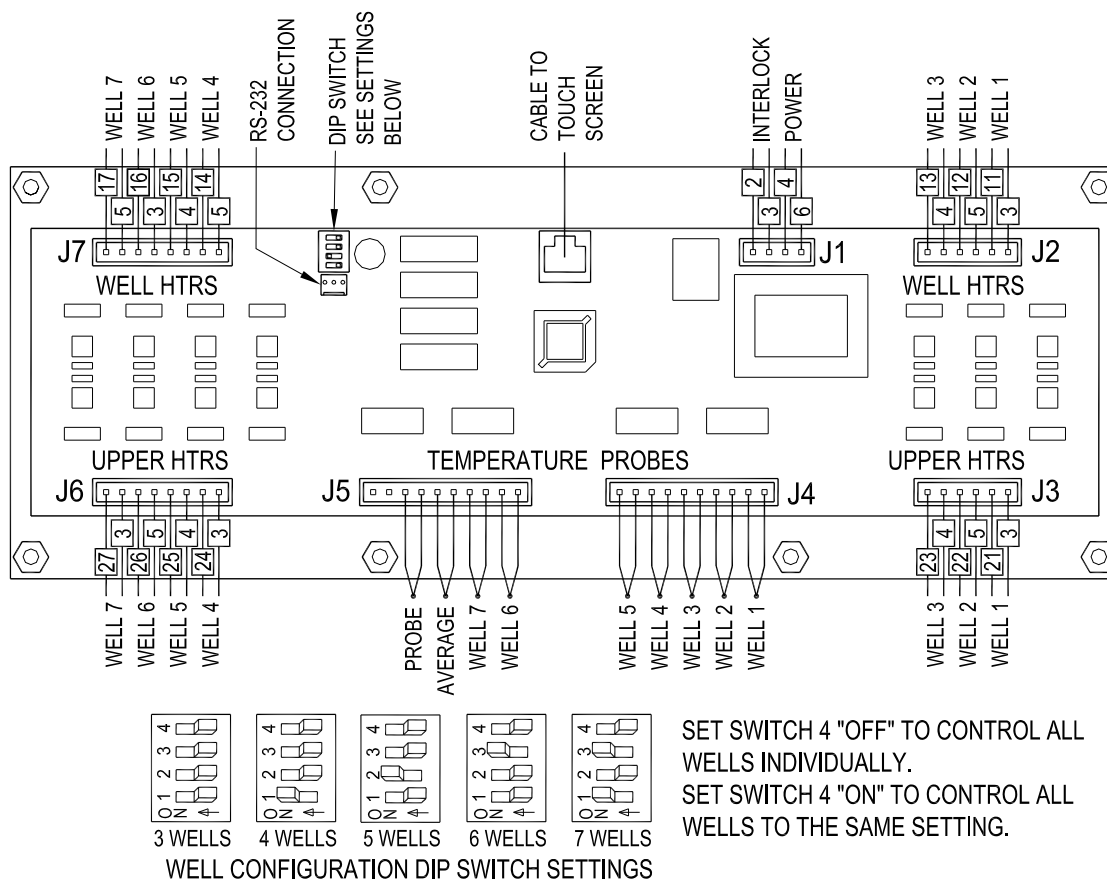
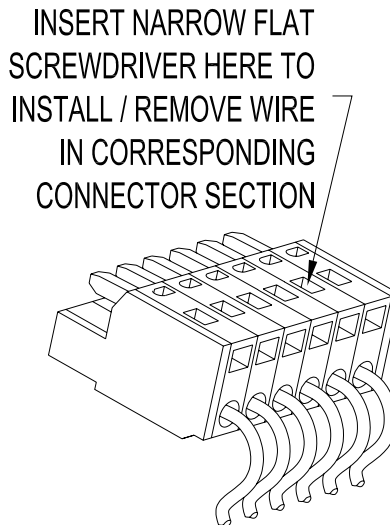

Figure 10. Light Ballast Wiring
Figure 12. Control Board Connectors
- Unplug connectors J1, J2, J3, J4, J5, J6, J7 and the RS-232 connector (see Figure 10) from the Control Board by pulling straight up on the connector. On 3 well cases connectors J6 and J7 will not be present.
- Unplug the Touch Screen Cable (see Figure 10) by depressing the tab on the outside of the connector and pulling the connector straight up.
- Remove the (8) retaining nuts using a 3/8" nut driver and remove the failed Control Board.
- Install the replacement Control Board over mounting studs in the same orientation as the original. Reinstall and tighten the (8) retaining nuts.
- Set dip switch (see Figure 10) on replacement Control Board to match that of the original Control Board. For reference, these settings are detailed in Figure 10.
- Plug all connectors into replacement Control Board (see Figure 10).
4. Remove probe wires from control board connector J5 (see Figure 10) as detailed in Figure 12. Insert wires from the replacement probe into the connector in the same manner. Probe is not polarized so it does not matter which color wire is inserted into either connector section.
4. Remove probe wires from control board connector J2 or J7 (see Figure 10) as detailed in Figure 12. Insert wires from the replacement probe into the connector in the same manner. Probe is not polarized so it does not matter which color wire is inserted into either connector section.